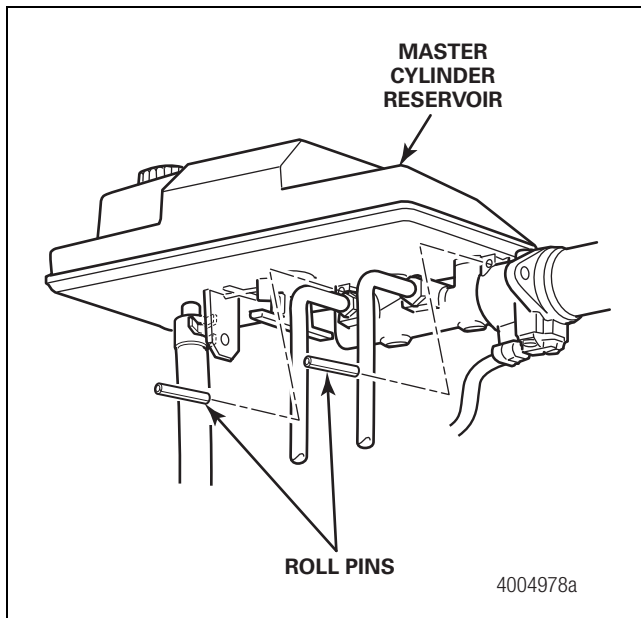

Figure 7
- C. Install the roll pins. Drive the pins through the holes in the master cylinder boss and the reservoir mounting tab holes. Support the back of the tabs as you install each pin. Figure 7.